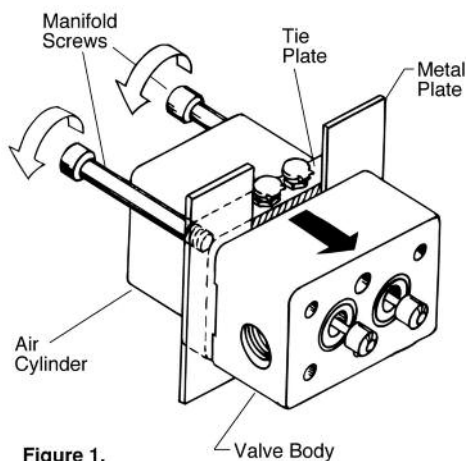

Figure 1.
1. Remove the manifold and seat plate (8). Pry bar slots are provided.
2. Remove the air cylinder bolts (2) and wiggle the air cylinder apart. If the assembly is frozen, use the pry bar slots on the valve body (7) to separate the valve body (7) from the tie plate (5). Insert flat pieces of metal between the valve body and the tie plate as per Figure 1. Thread the manifold screws (36) into the back of the tie plate and push the valve body apart. Apply uniform pressure to prevent the body from cocking and bending the spool valves (75).